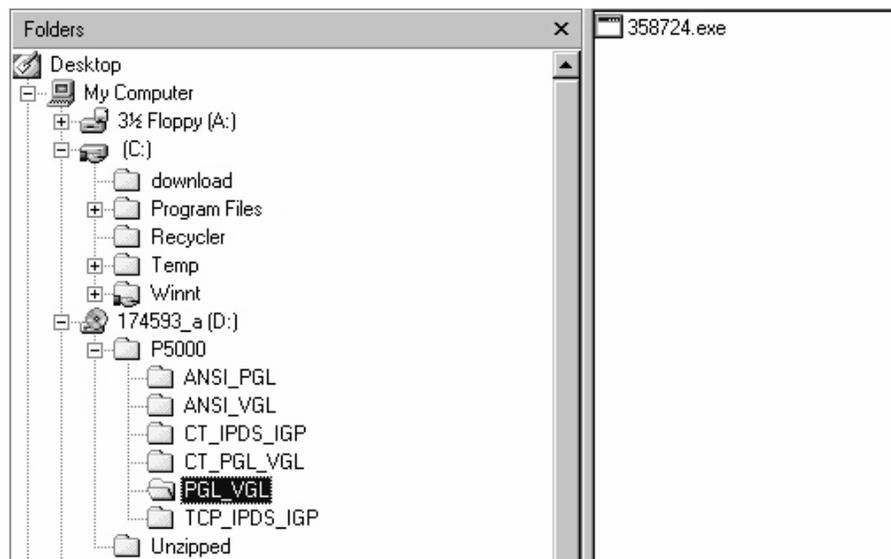

Figure 21. Navigating to the Appropriate Emulation File on the CD-ROM
- Using Windows Explorer, navigate to the file on the CD-ROM that matches the printer model and emulation you want. (For example: P5000 ► PGL_VGL is shown in Figure 21. Your printer and emulation may be different, of course.)
- Note the filename, which is a six digit number plus **.exe**. (For example, 358724.exe is shown in Figure 21. Your filename may be different, of course.)